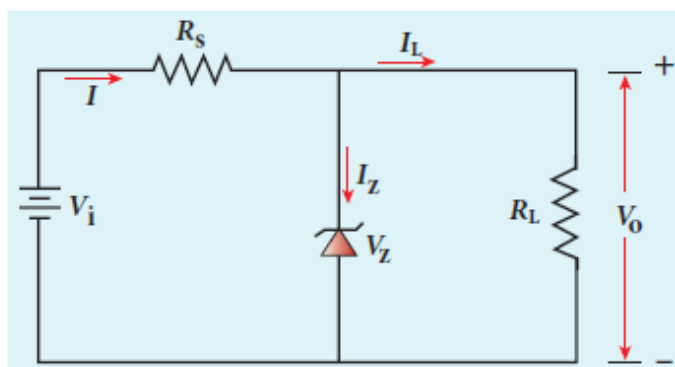

Figure 10.21 Circuit to study voltage regulation by Zener diode
- ✓ Zener diode working in the breakdown region can serve as a voltage regulator whose circuit diagram is given in Figure 10.21.